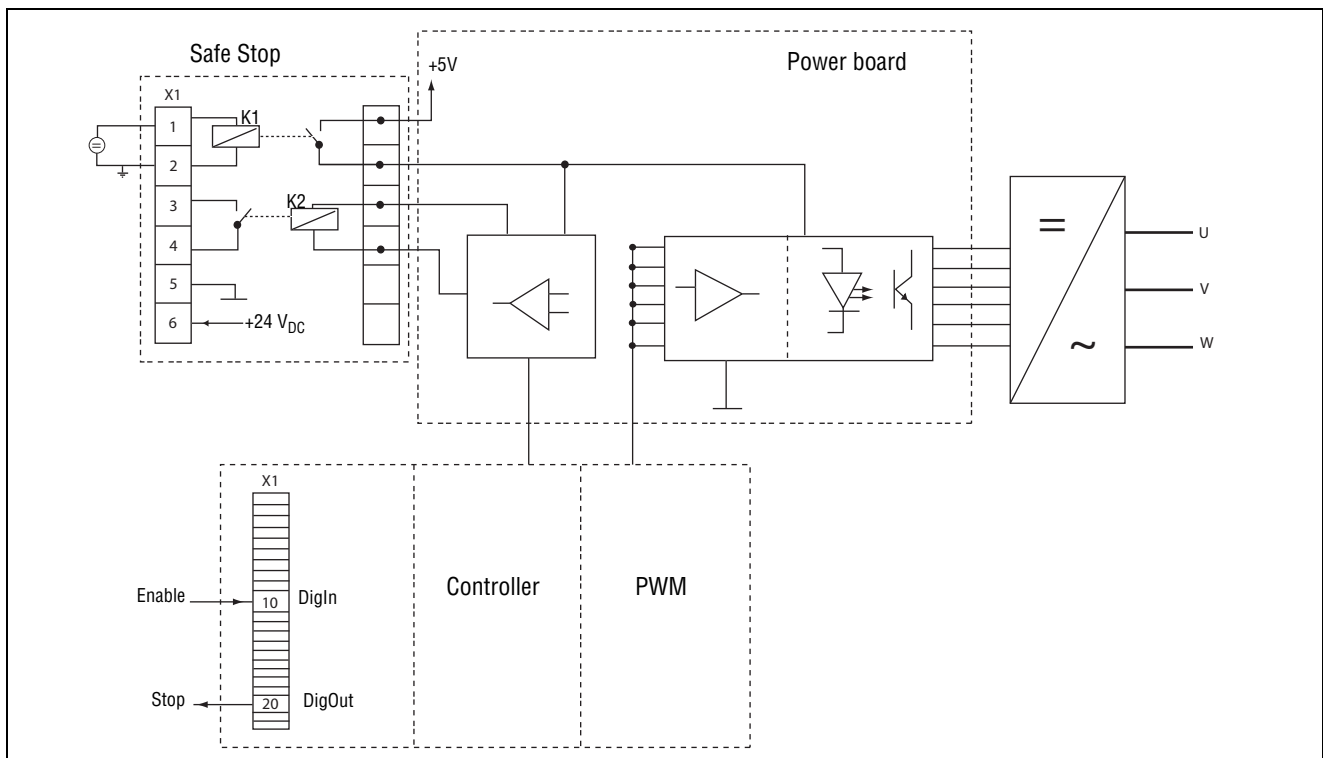

Fig. 124
- "Inhibit" input, terminals 1 (DC+) and 2 (DC-) on the Safe Stop option board should be made active by connecting  $24 V_{DC}$  to secure the supply voltage for the driver circuits of the power conductors via safety relay K1. See also Fig. 124.
- High signal on the digital input, e.g. terminal 10 in Fig. 124, which is set to "Enable". For setting the digital input please refer to section 11-5-2, page 198.
To monitor the "Enable" function, the selection "RUN" on a digital output can be used. For setting a digital output, e.g. terminal 20 in the example Fig. 124, please refer to section 11-5-4, page 207 [540].